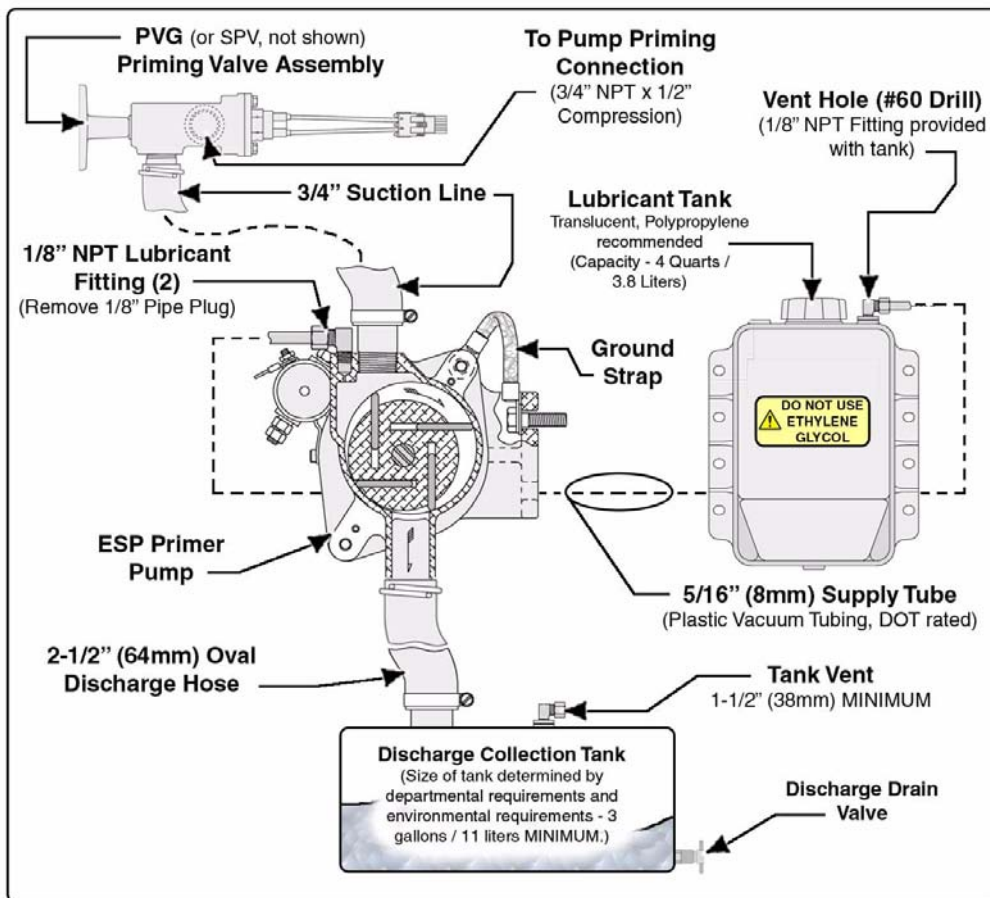

Figure 3-10: Typical ESP Lubricated Primer Layout
Also see Figure 3-10: “Typical ESP Lubricated Primer Layout” on page 30.
The tank should be a translucent, polypropylene tank to allow visual inspection of the lubricant level. Order Hale p/n: 108-0012-00-0 (4 quart / 3.8 liter capacity), which includes the 1/8" NPT x 5/16" (8 mm) tube fitting with a #60 vent hole. (See Figure 3-10: "Typical ESP Lubricated Primer Layout.")
3. Run DOT air brake tubing (5/16" / 8 mm) from the lubricant storage tank to the primer pump fitting and secure the tubing (tubing clamps). (See Figure 3-10: "Typical ESP Lubricated Primer Layout," on page 30.)
4. Install a separate discharge collection container (tank), three (3) gallons (11 liters) MINIMUM, to collect all discharged fluid during priming in accordance with your departmental and/or local environmental regulations.
6. Install a tank vent, 1-1/2" (38 mm) MINIMUM at the top of the discharge tank. (See Figure 3-10: "Typical ESP Lubricated Primer Layout," on page 30.)